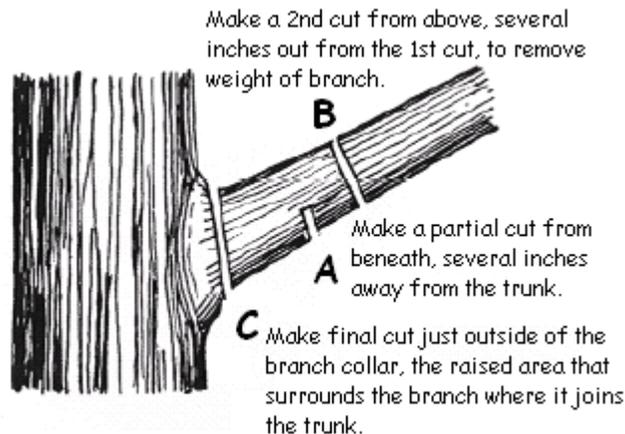

Figure 1
2. Branches too large to support with one hand shall be precut (3 cut method) to avoid tearing or splitting of the bark. (See figure 1)